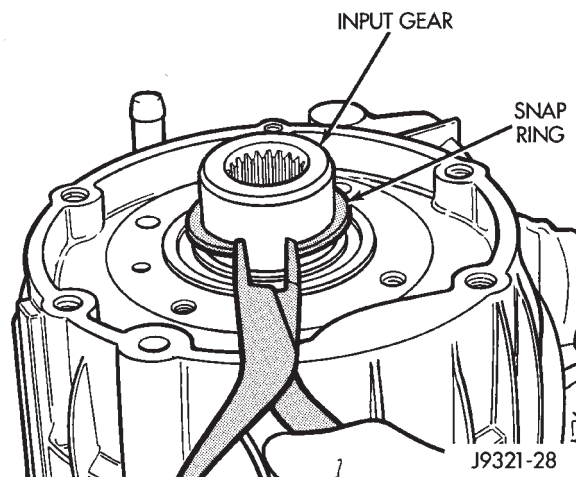

Fig. 43 Input Gear Snap Ring Removal
(29) Remove snap ring that retains input gear shaft in front bearing (Fig. 43).